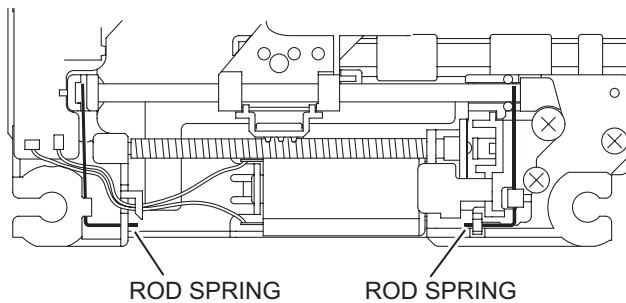

Fig.7
**3.2.2 Removing the pickup assembly (See Fig.7 to 11)**
(1) Remove the two rod springs pressing the guide shaft. (See Fig.7)